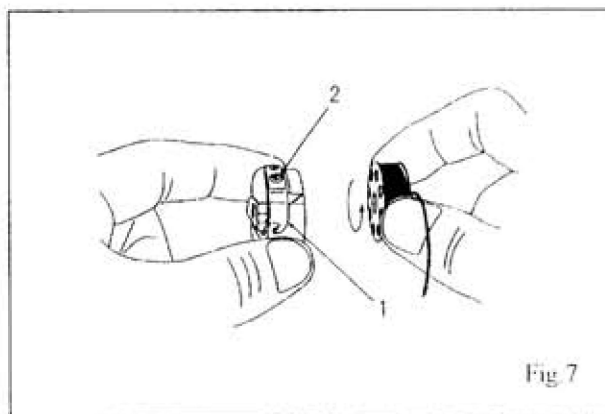

Fig.7
3) Hold the bobbin between the thumb and forefinger of your right hand and pull out a length of about 5 cm of thread. Holding the bobbin case in your left hand turn the open side up and place the threaded bobbin into it. (Fig.7)
4) With the right hand guide the thread into the slot in the edge of the bobbin case. Then pull the thread to the left, under tension spring 1 (Fig.7) and into the delivery eye. In order to keep the bobbin from dropping out of the case when it is turned with the open side down, always keep the hinged latch at the front of the bobbin
2) Tension of the lower (bobbin) thread: (Fig.7)
The lower (bobbin) thread tension is controlled by the larger screw (2 Fig.7) near the end of the spring at the outside of the bobbin case. Turning this screw to clockwise to increase the thread tension, while turning it to counter-clockwise to decrease it.